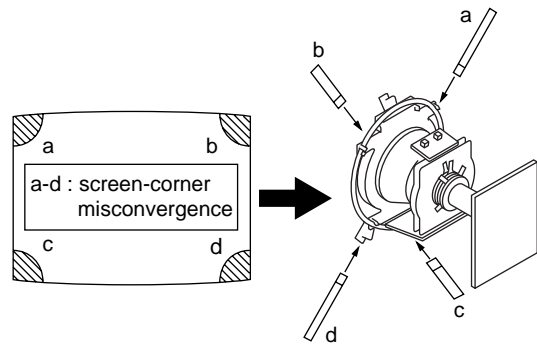

Fig.3-8
- Fix the deflection yoke to insert the wedge to the picture tube funnel and the deflection yoke. (Fig.3-8)